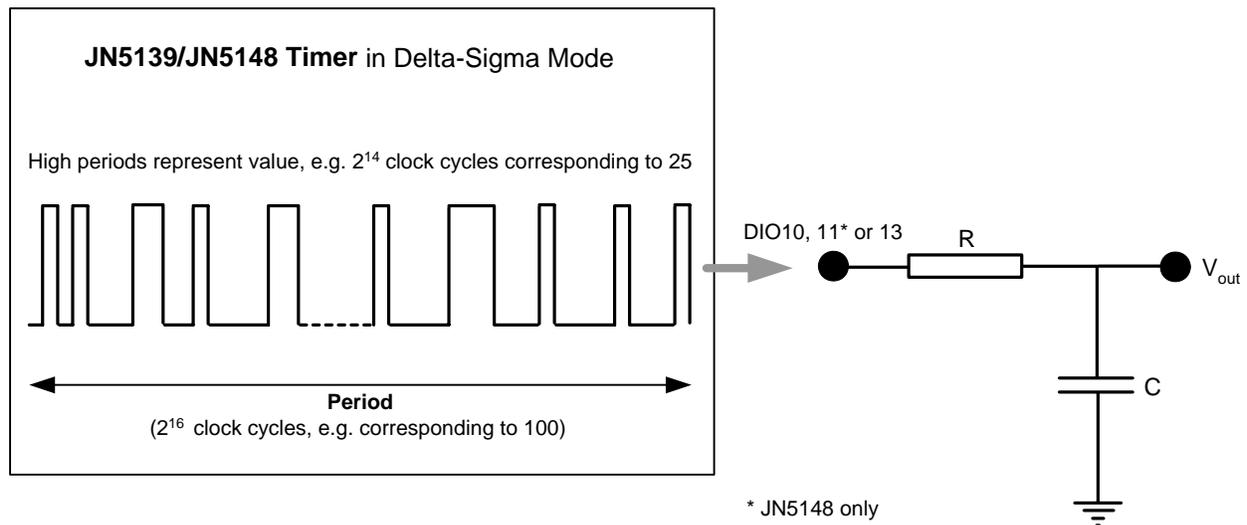

Figure 8: Delta-Sigma NRZ Mode Operation
Delta-Sigma mode allows a timer to be used as a simple low-rate DAC. This requires the timer output to be enabled in **vAHI_TimerEnable()**. The output pin is DIO10 for Timer 0, DIO13 for Timer 1 and DIO11 for Timer 2 (JN5148 only). An RC (Resistor-Capacitor) circuit must be inserted between this pin and Ground (see Figure 8).
- **NRZ (Non Return-to-Zero):** Delta-Sigma NRZ mode uses the 16-MHz system clock and the period of the waveform is fixed at 2^{16} clock cycles. The NRZ option means that clock cycles are implemented without gaps between them (see RTZ option below). You must define the number of clock cycles spent in the high state during the pulse cycle such that this high period is proportional to the value to be converted. This number is set when the timer is started using the function **vAHI_TimerStartDeltaSigma()**. For example, if you wish to convert values in the range 0-100 then 2^{16} clock cycles would correspond to 100, and to convert the value 25 you must set the number of high clock cycles to 2^{14} (a quarter of the pulse cycle). For an illustration, refer to Figure 8.